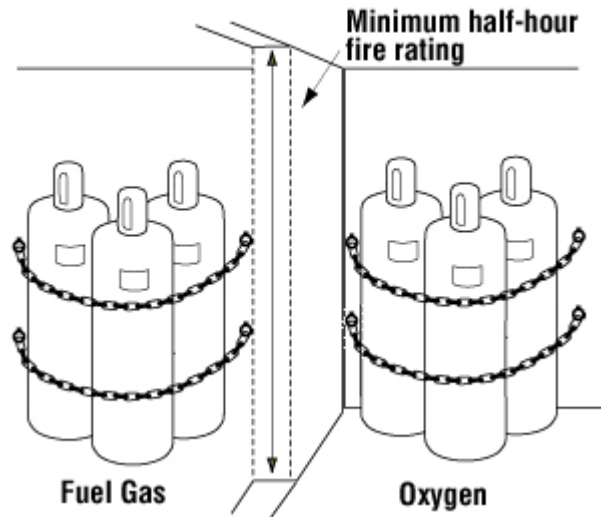

Fig 3. Flammables and oxidizer segregation
- Segregated cylinders by contents. For example, flammable gases must be stored separately from oxidizing gases by a distance of 20 feet or a 5 foot high, one-hour fire-rated wall (Fig 3)